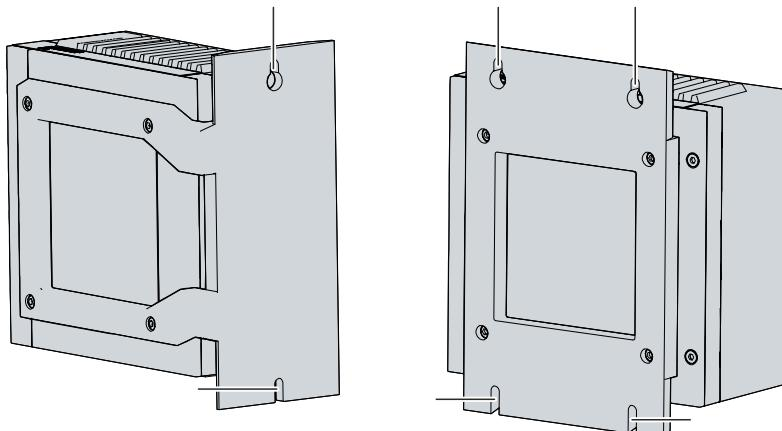

Fig. 13: C6030 \_Mounting plates for control cabinet installation
2. Hang the PC onto the screws at the marked points on the mounting plate (see Fig.13).